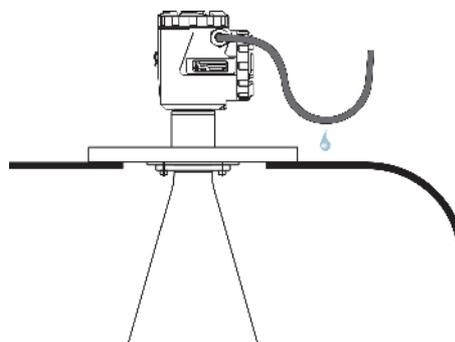

Fig.16
- In case of tanks and silos with conic bottom the suggested position for **RPL** transmitter is in the middle of the roof (fig.16), in order to extend the maximum possible measurement range.